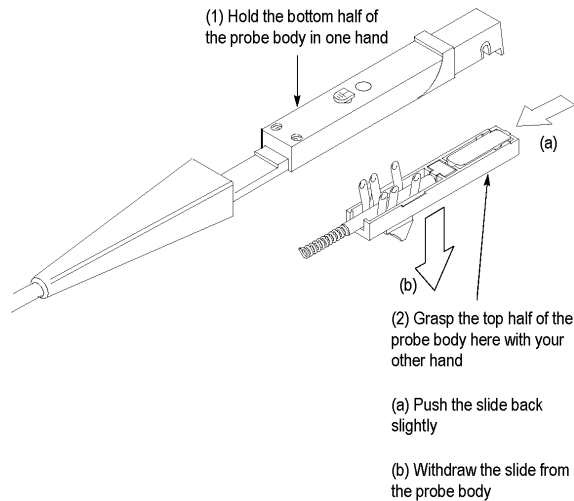

Figure 25: Removing the Probe Slide
5. Turn the probe upside down, push the slide back slightly, and remove the slide. (See Figure 25.)